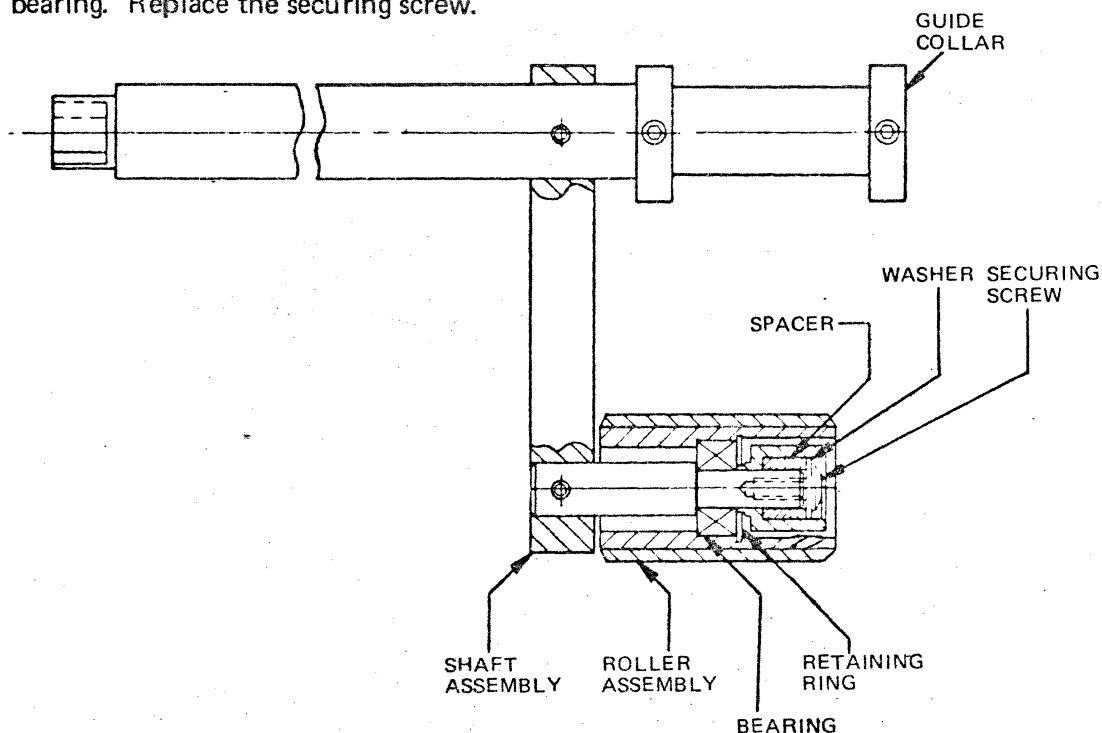

Figure 10. Shaft and Pinch Roller Assembly
1. PINCH ROLLER AND BEARING REPLACEMENT (refer to figure 10)